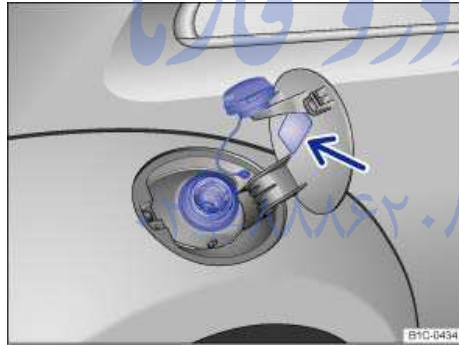

Fig. 136 Right rear side of vehicle: Fuel cap placed on the open fuel filler flap.
- Unscrew the fuel cap counterclockwise and remove. Use the slot on the fuel filler flap ⇒ fig. 136 to hold the cap while refueling.
The correct fuel grade for your vehicle ⇒, *Fuel* is listed on a sticker on the inside of the fuel filler flap ⇒ fig. 136 (arrow).
⇒ fig. 136.